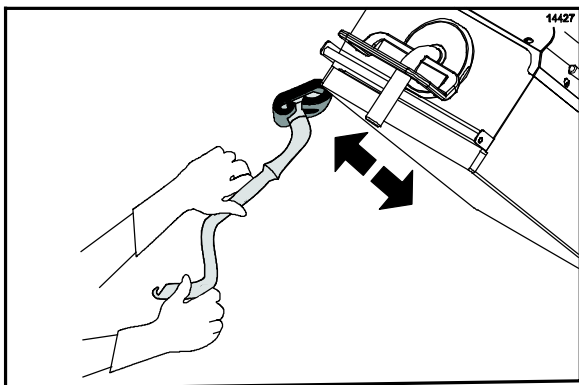

Figure 52
19. Apply the grill cleaner to the outer edges of the right and left platens. (See Figure 52.)